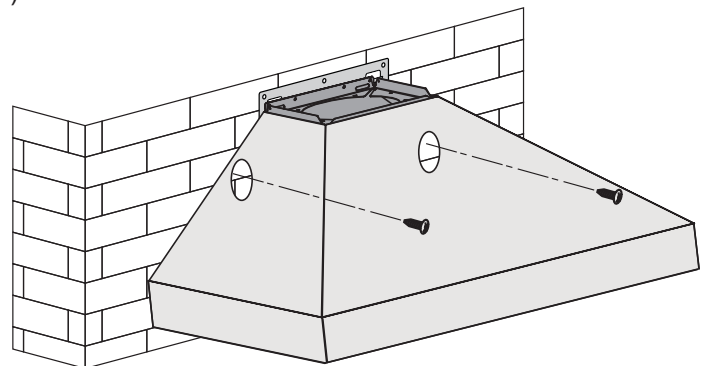

Figure 2
- **Optional step:** For extra support, drill 2 additional holes aligned to hood's pre-drilled holes, to mount the hood onto the wall (see Figure 2).